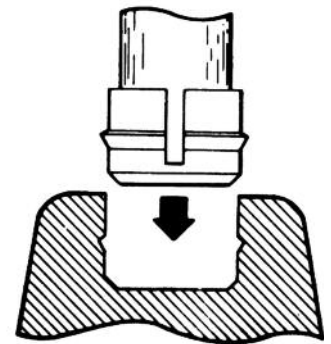

Fig. 16
4. Set a new male on the seating tool. Place the tool with the new male into the recess in the acrylic and firmly push it in until the male snaps securely into place (Fig. 16).